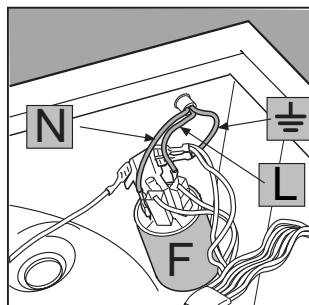

Fig. 4
3. Disconnect the wires from the radio interference suppressor **F** [fig. 4] taking care as to their position (**Blue=N** wire; **Brown=L** wire) leaving the earth wire until last \perp .